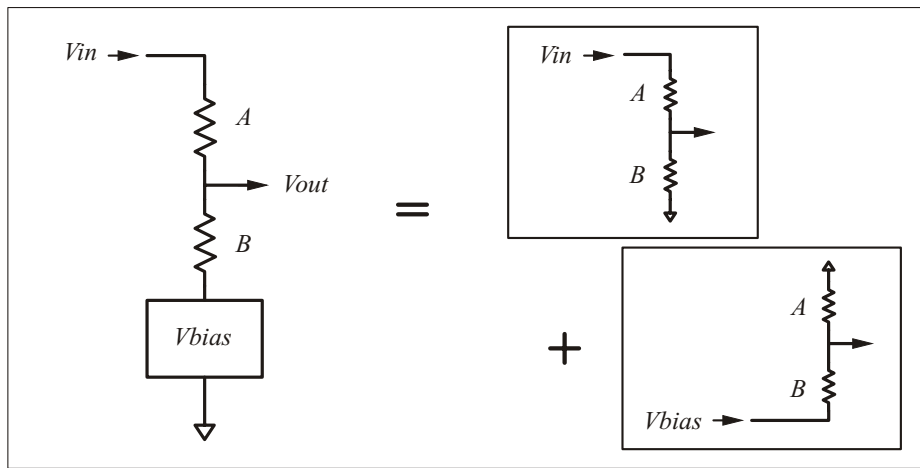

Figure 3: Biased two resistor divider
While the simple scaling divider above is fine for applications requiring only scaling, it does not add any bias. Negative voltages going into the divider come out negative, while you may require such voltages to be biased into the positive range. This can be done by modifying the basic divider as shown in Figure 3. The circuit is the same as the scaling divider *except* the end of resistor *B* is held at a nonzero voltage and *not* at ground.
The output of the biased divider in Figure 3 is:
With practice, equations like (6) can be written down at sight. Here is how: from Kirchoff's and Ohm's laws we know V_{out} must be a *linear homogeneous* function of V_{in} and V_{bias} . Because of that we can solve for V_{out} with V_{in} and V_{bias} alternately set to zero and then add the partial results together to form the complete answer. The partial results for V_{in} and V_{bias} are easy to write down because they are each the same as the simple scaling resistor divider without bias. This decomposition is indicated with the subdiagrams in Figure 3.
where $r = B/A$, and (V_{in}, V_{out}) is any pair of input/output values. As usual, while any resistors with the ratio r will work, use values large enough to keep the divider currents small. Also note the value of V_{bias} is fixed by the design process. With these results the design steps for the biased two resistor divider in Figure 3 are: